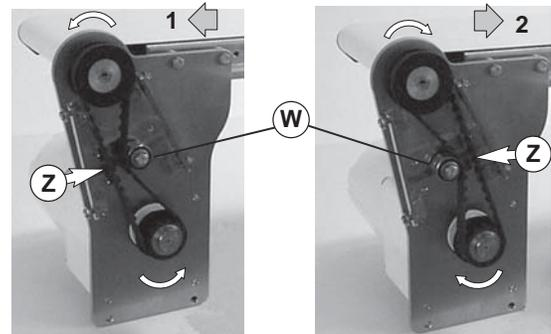

Figure 5
4. Depending on conveyor belt travel (direction 1 or 2), locate timing belt tensioner (Figure 5, item W) as shown. Do not tighten tensioner screw.
- Tension timing belt to obtain 0.125" (3 mm) deflection for 1.0 lb (456 grams) of force at timing belt mid-point (Figure 5, item Z). Tighten tensioner screw to 92 in-lb (10.4 Nm).